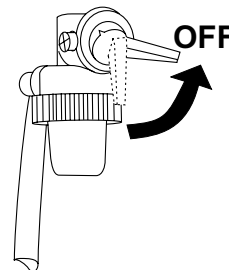

Figure 32. Engine Fuel Valve Lever (OFF)
5. Place engine fuel valve lever (Figure 32) in the **OFF** position.